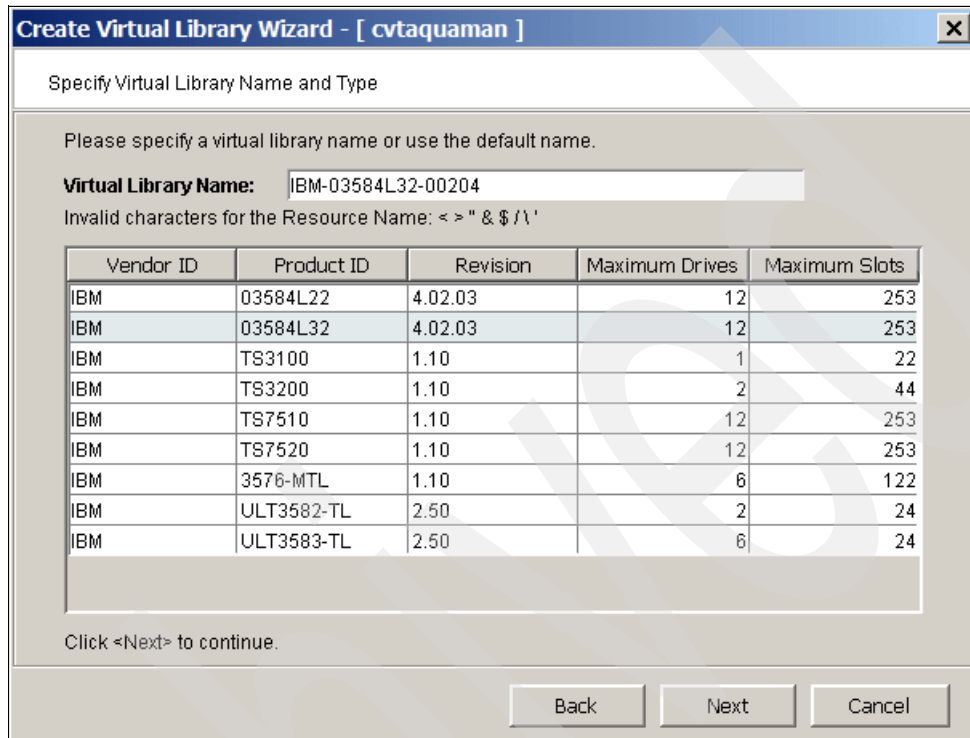

Figure 8-7 TS7500 - Select type of virtual library
- In the *Specify Virtual Library Name and Type* panel (Figure 8-7), select the library type, and type a name for the new virtual library.